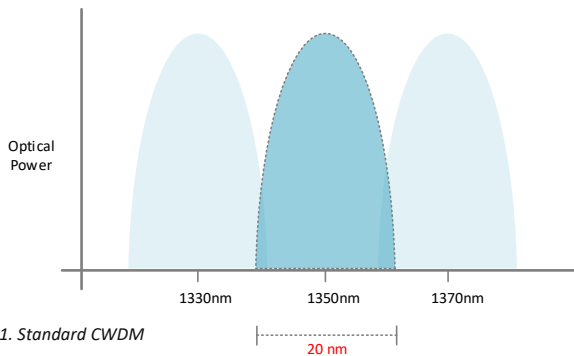

Fig 1. Standard CWDM
Figure 1. shows the standardized channel spacing for use with CWDM (ITU-T G.694.2). It allows totally 18 channels between 1270nm and 1610nm with 20 nm spacing. Due to this limitation of channels deployed in one (1) fiber, system integrators must always prioritize the signals in order to fit a single fiber transmission architecture. *Keep in mind that some signals are bi-directional (e.g. ethernet), and will occupy 2 channels in your CWDM multiplexer*